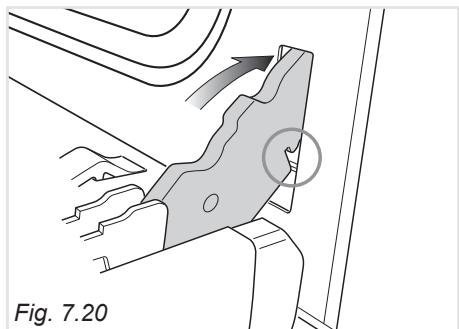

Fig. 7.20
2. Insert the hinge tongues into the slots, making sure that the groove drops into place as shown in the figure 7.20.